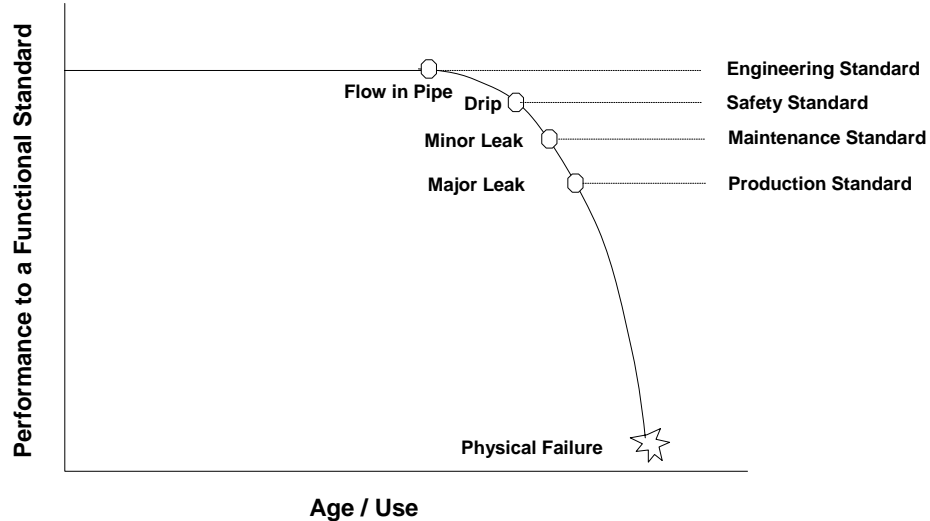

Figure 7-3: Performance Standards and Functional Failure
- ❖ As illustrated in figure 7-3, this frequently creates conflict between various departments.